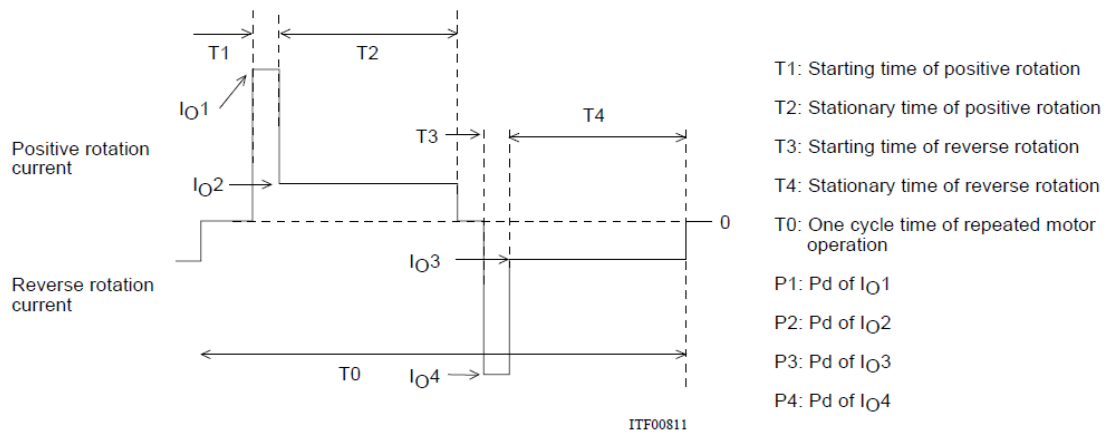

Figure 3. Timing Chart of Motor Operation
Since the starting current and the stationary current coexist in an actual motor operation, Pd cannot be obtained only from the data shown in Figure 6. Therefore, Pd is obtained assuming that the timing of the actual motor operation is a repeated operation shown in the following Figure 3.
The average power loss Pd in the hybrid IC upon an operation shown in Figure 3 can be obtained by the following equation (II):